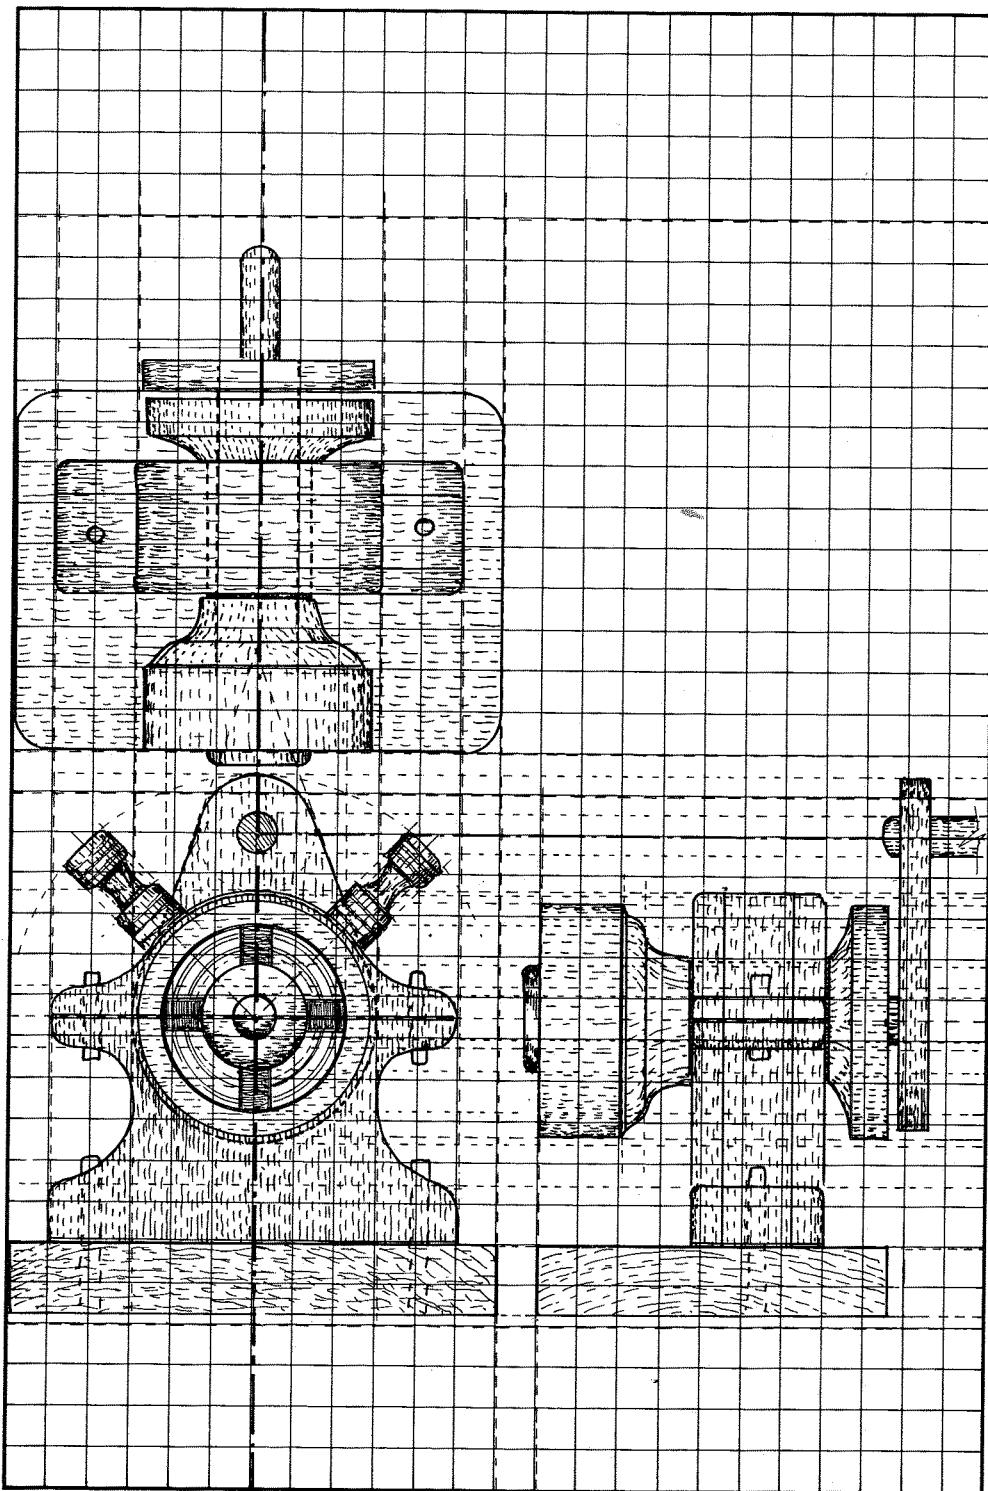
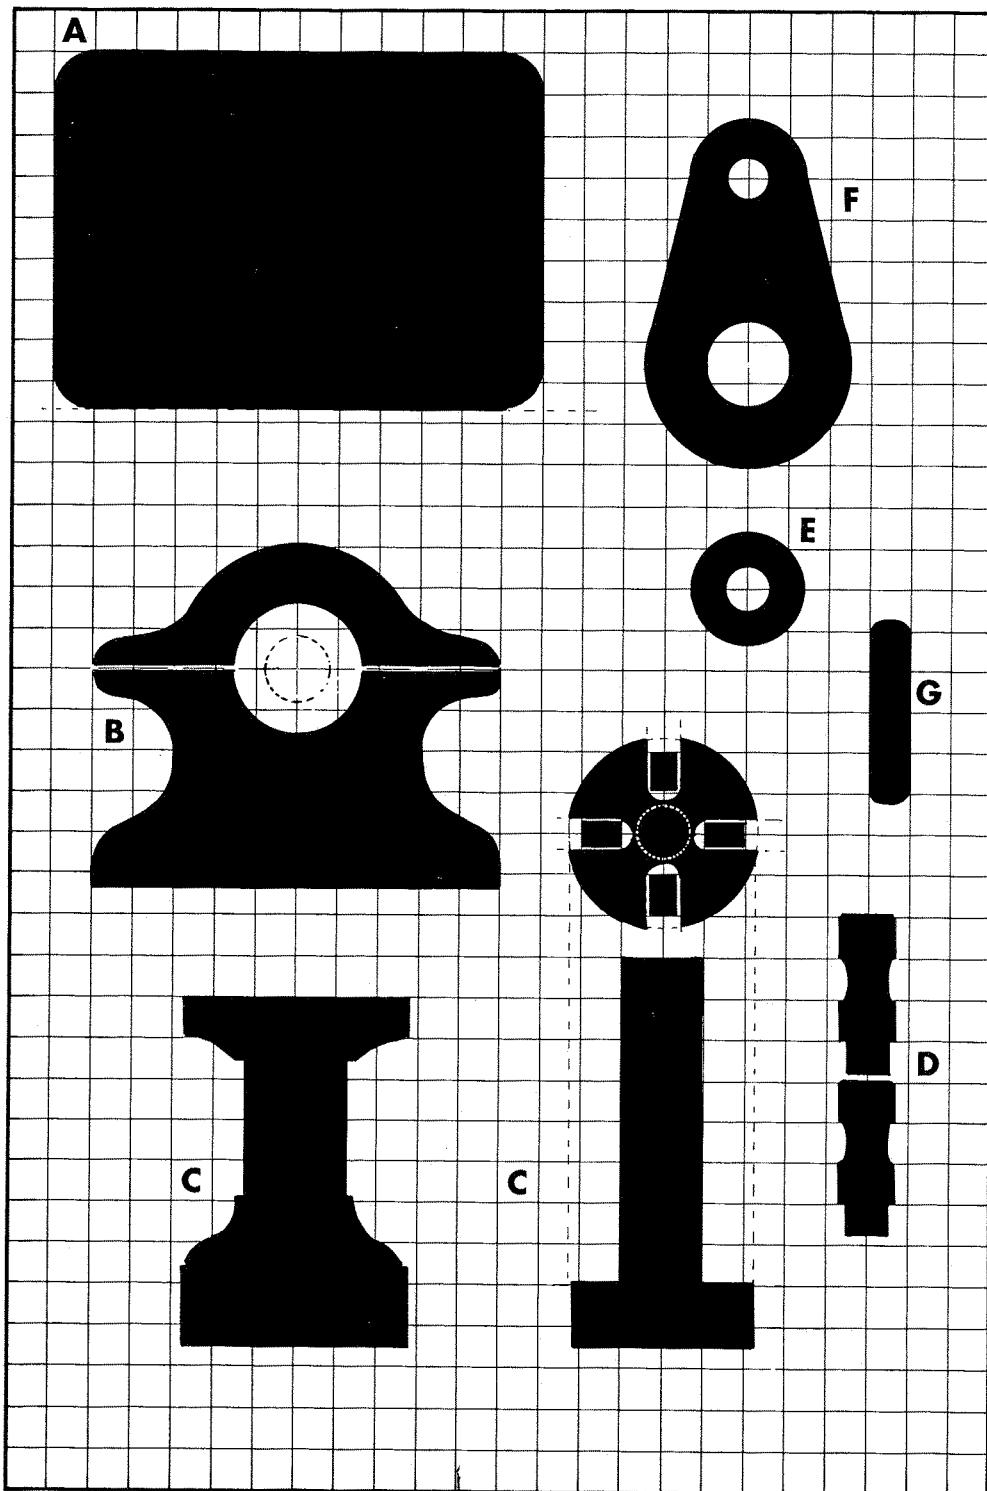

FIGURE 8-1
FIGURE 8-2
Have a look at the working drawing (Fig 8-1) and the template design (Fig 8-2), and see that in essence, the machine is made up of four primary elements: a fretted base slab, cradle and collar, turned tube, or chamber, that sits in the cradle, and turned shaft with integral vanes, or gates, that pivot within the chamber.
- 1 When you have studied the working drawing (Fig 8-1), template design (Fig 8-2), and the various hands-on illustrations, and when you have gathered your wood and brought your tools to order, draw the design to size, and make a tracing.
1 Before you put tool to wood, have a look at the working drawing (Fig 8-1), the template design (Fig 8-2) and various hands-on photographs, and see that the main body of the pump is made up of two components: a hollow chamber and shaft. Note the way the outside of the shaft is spigoted and the inside of the chamber is stepped so the two come together for a smooth-turning, sliding fit. Having noted that we've turned the two component parts from a single length of wood, this is not to say you can't go for two separate turnings.
5 With the chamber profile crisply roughed out, take the tool of your choice—we use a round-nosed scraper—and carefully turn the decorative coves and beading to shape (Fig 8-7). As to the precise shape of the coves and beads, look to the template design (Fig 8-2) and see that they are really open to your own interpretation.
1 With the greater part of the project made, now is the time to look to the working drawing (Fig 8-1) and then perhaps to modify the unmade components. I say this because if your way of working is anything like mine, then chances are some part will need, in some way or other, to be reshaped or resized.